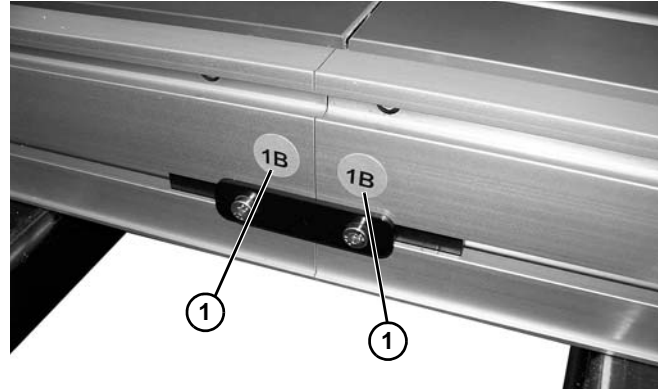

Figure 4
1. Locate and arrange conveyor sections (**Figure 4, item 1**) by section labels.